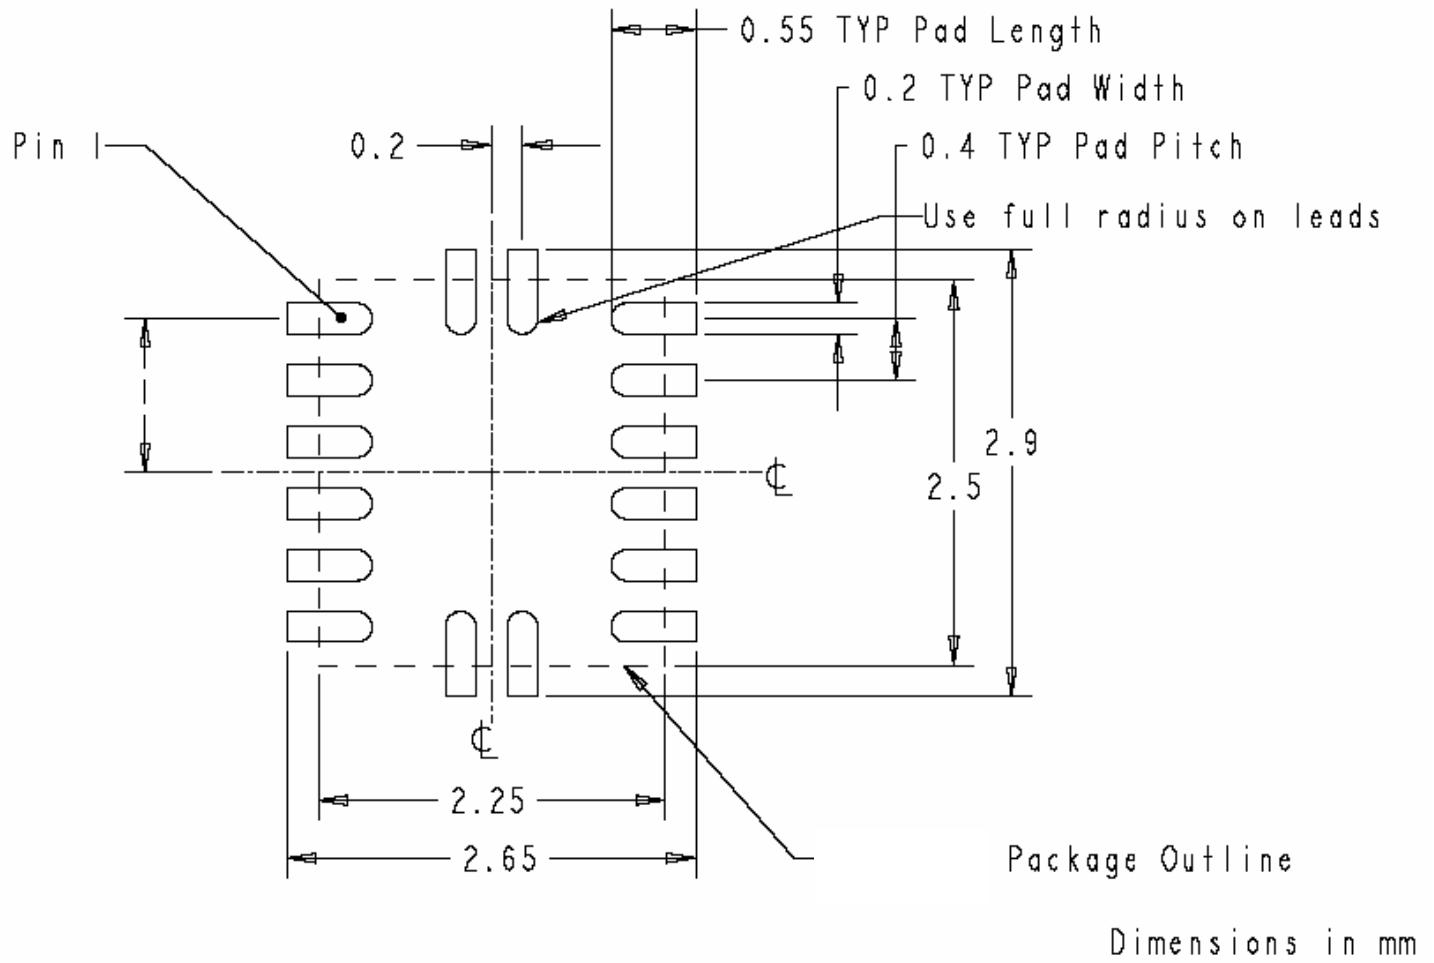

**Figure 12: Top PCB Layer Critical Components and Copper for Minimum Footprint**
Figure 12 shows critical components and layer 1 traces of a recommended minimum footprint EP5357LUI/EP5357HUI layout with ENABLE tied to  $V_{IN}$ . Alternate ENABLE configurations, and other small signal pins need to be connected and routed according to specific customer application. Please see the Gerber files on the Altera website [www.altera.com/enpirion](http://www.altera.com/enpirion) for exact dimensions and other layers. Please refer to Figure 12 while reading the layout recommendations in this section.
**Recommendation 2:** Input and output grounds are separated until they connect at the PGND pins. The separation shown on Figure 12 between the input and output GND circuits helps minimize noise coupling between the converter input and output switching loops.
**Recommendation 4:** Multiple small vias should be used to connect the ground traces under the device to the system ground plane on another layer for heat dissipation. The drill diameter of the vias should be 0.33mm, and the vias must have at least 1 oz. copper plating on the inside wall, making the finished hole size around 0.20-0.26mm. Do not use thermal reliefs or spokes to connect the vias to the ground plane. It is preferred to put these vias under the capacitors along the edge of the GND copper closest to the +V copper. Please see Figure 12. These vias connect the input/output filter capacitors to the GND plane and help reduce parasitic inductances in the input and output current loops. If the vias cannot be placed under  $C_{IN}$  and  $C_{OUT}$ , then put them just outside the capacitors along the GND. Do not use thermal reliefs or spokes to connect these vias to the ground plane.
**Recommendation 5:** AVIN is the power supply for the internal small-signal control circuits. It should be connected to the input voltage at a quiet point. In Figure 12 this connection is made at the input capacitor close to the  $V_{IN}$  connection.